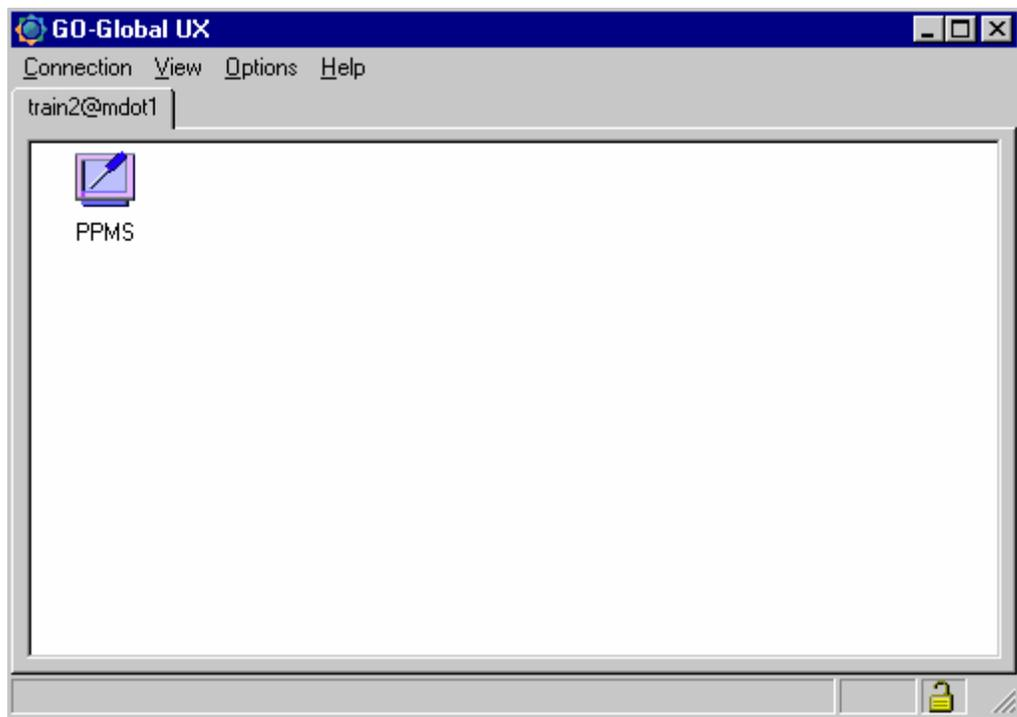

Figure 4
6. After you correctly enter your login and password the following screen will appear Figure 4.
11. Figure 4 then shows on the screen again.
13. Exit the Connection in Figure 4.